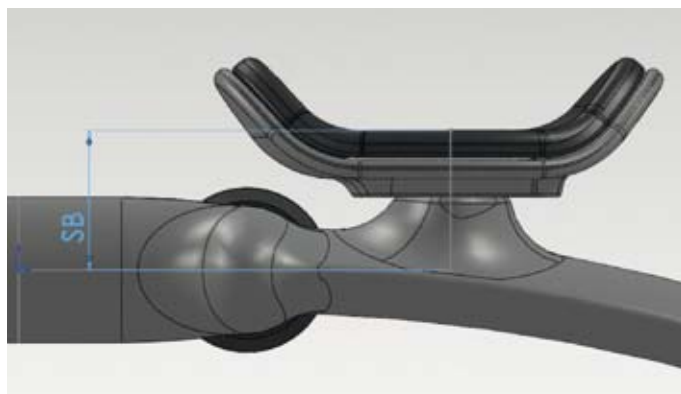

Figure 3a
- stack (SB) and reach (RB) of your bars (Figure 3a and b)